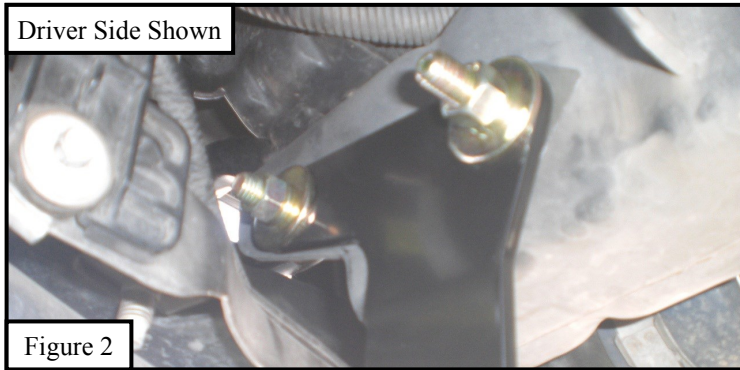

Figure 2
- Take the drivers side mounting bracket and attach it to the previously installed stud plate using (1) M12 flat washer, (1) M12 lock washer, and (1) M12 hex nut. Attach the front mounting point using (1) M12 hex head bolt, (2) M12 flat washers, (1) M12 lock washer and (1) M12 hex nut (**Figure 2**). Do not fully tighten at this time. Repeat this step for passenger side.